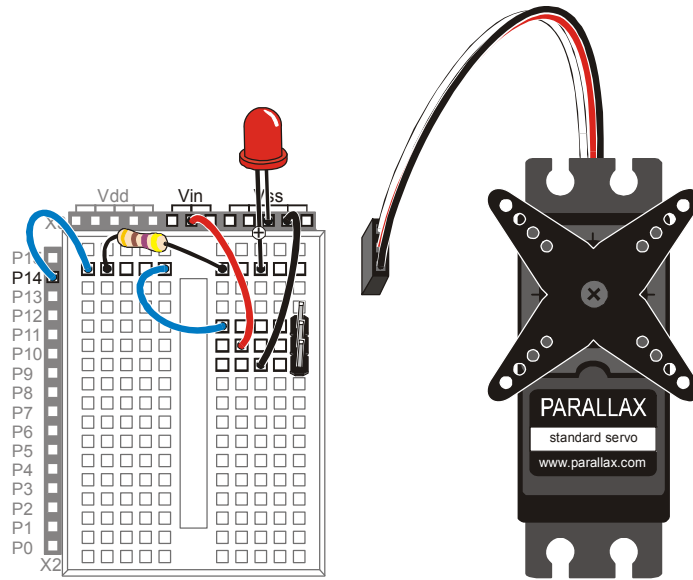

Figure 3
- √ Build the LED indicator and servo header circuit shown in Figure 3.